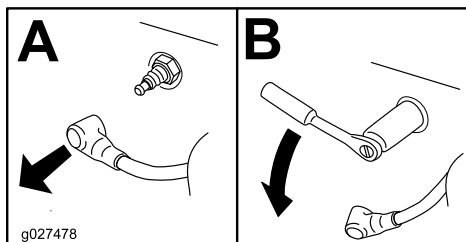

Figure 48
3. Remove the spark plug (Figure 48).